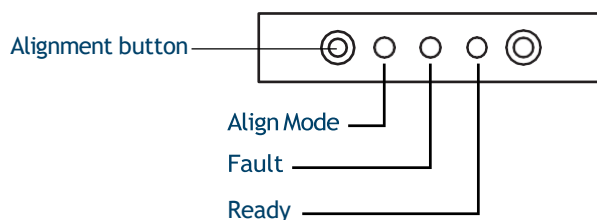

Figure 82. Align the sample tray
- 1 Use a long, narrow object (such as a pen tip) to press the recessed Alignment button to the left of the indicator lights. Avoid contact with anything behind or around the button inside the recessed hole (Figure 82).